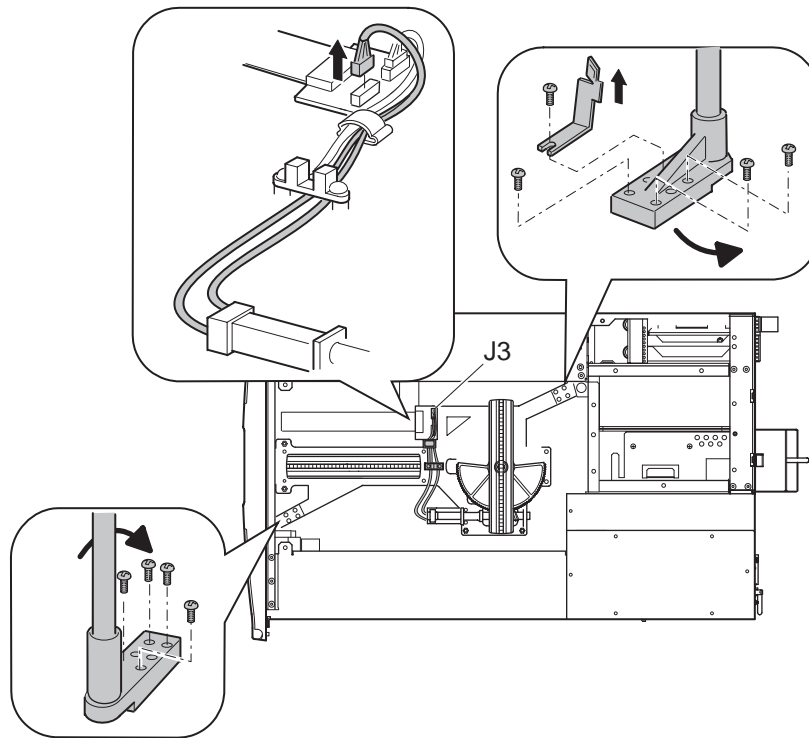

Figure 3-46: Removing the robotics base
13. Remove the four screws and washers that secure the rear vertical axis screw rail from the robotics base (see Figure 3-46).
17. Remove the four screws that secure the front vertical axis screw rail from the robotics base (see Figure 3-46).
2. Swing the front vertical axis screw rail foot counter-clockwise and align the installation holes with the robot track base (see Figure 3-46).
4. Replace (finger tighten and loosen one turn) the four screws that secure the front vertical axis screw rail to the robotics base (see Figure3-46).
5. Swing the rear vertical axis screw rail foot clockwise and align it over the robot track base (see Figure 3-46).
7. Replace (finger tighten and loosen one turn) the four screws that secure the rear vertical axis screw rail to the robotics base (see Figure3-46).
8. Replace the flex cable carrier clamp (see Figure 3-46).
9. Connect the rotating track motor power cable to the robotics board (see Figure 3-46).